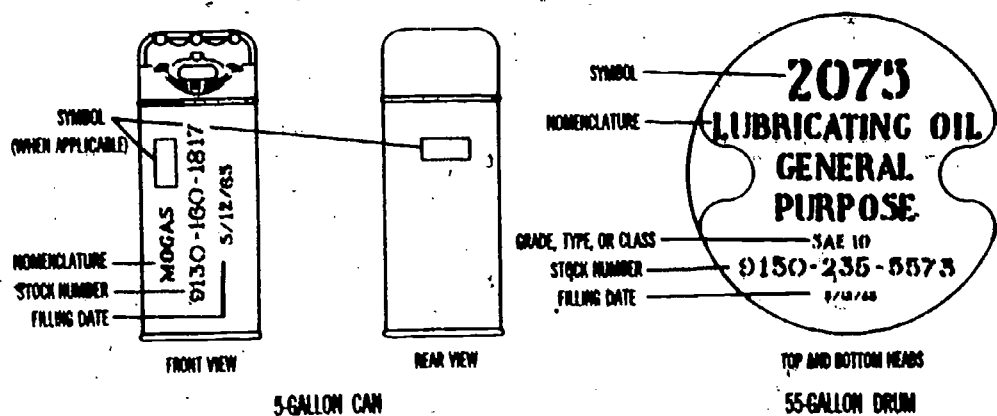

Fig 1-29. Can and drum markings within a theater of operations.
The hardest job for the user of fuels and lubricants is to determine what is in a container which has many numbers and letters, some of which do not correspond with the numbers shown on the lubrication instructions (LI) or in the technical manual (TM). Shipments marked by contractors will show the following information: NATO symbol (if applicable); product symbol; nomenclature; product specification; grade, type, or class; National stock number; filling date; and other information. Containers marked within a theater of operation are marked as illustrated in fig 1-29. If the container is used for anything other than its original contents it should be cleaned and remarked.